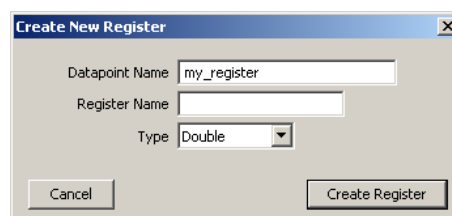

Figure 83: Create a user register.
2. Right-click in the data point list and select **New Datapoint...** in the context menu. This opens the register creation dialog as shown in Figure 83.